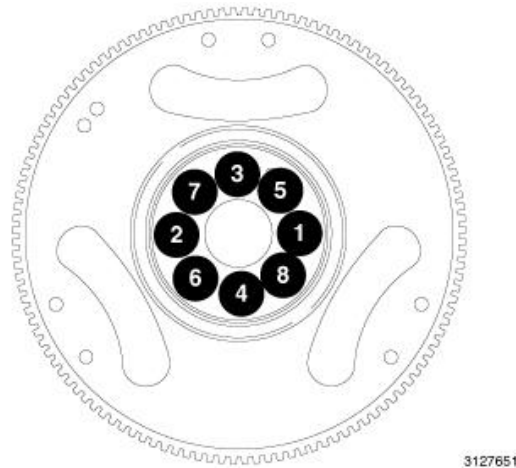

Figure 37 – Flexplate Tightening Sequence
5. Using the tightening sequence shown in Figure 37, tighten bolts to: